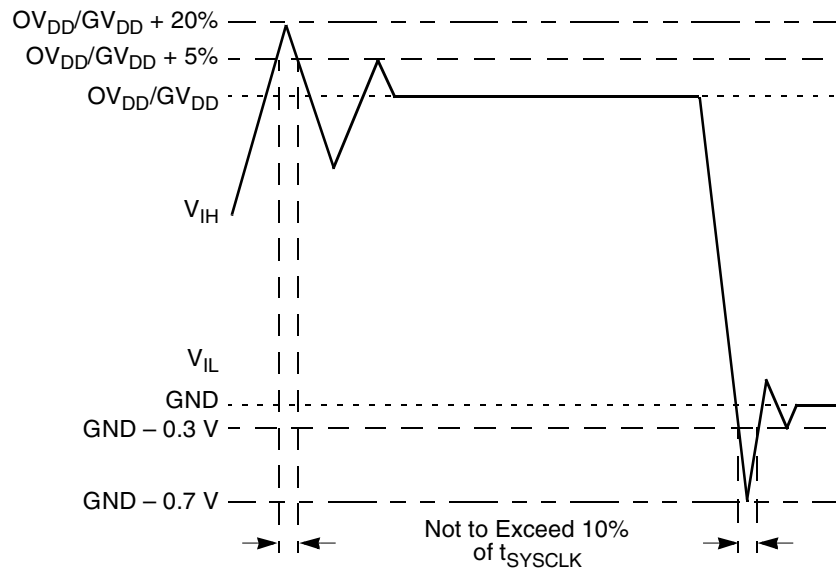

Figure 2. Overshoot/Undershoot Voltage
5. V_{in} may overshoot/undershoot to a voltage and for a maximum duration as shown in Figure 2.
Figure 2 shows the undershoot and overshoot voltage on the MPC7455.